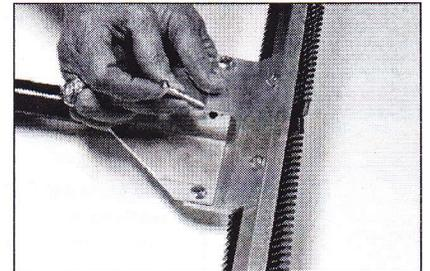

Fig 7
1. Slide the label end of the handle (label facing up) (G) over the center hole on the adapter plate (C) and align holes.
2. Position 1 gusset brace (F) on the bottom of the handle (G) and the other gusset brace (F) on top of the handle (figure 7).
3. Insert 2 long bolts (H) through the top gusset brace (F), the handle (G), and the bottom gusset brace (F).
4. Insert 2 short bolts (D) through the remaining holes passing through the gusset brace (F) and adapter plate (C).
5. Place loc nuts (E) on bolts and tighten using two 7/16" wrenches.